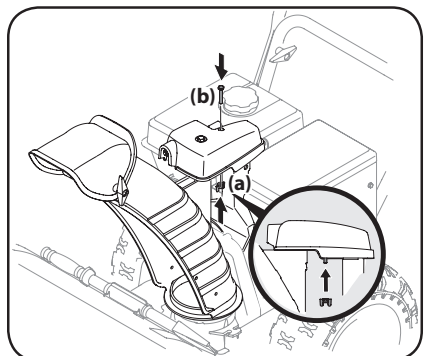

Figure 2-19
3. Finish securing chute control head to chute support bracket with wing nut (a) and hex screw (b) removed in Step 1. See Figure 2-19.